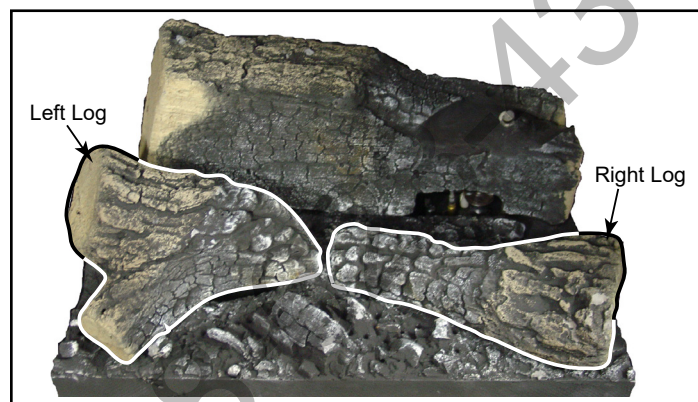
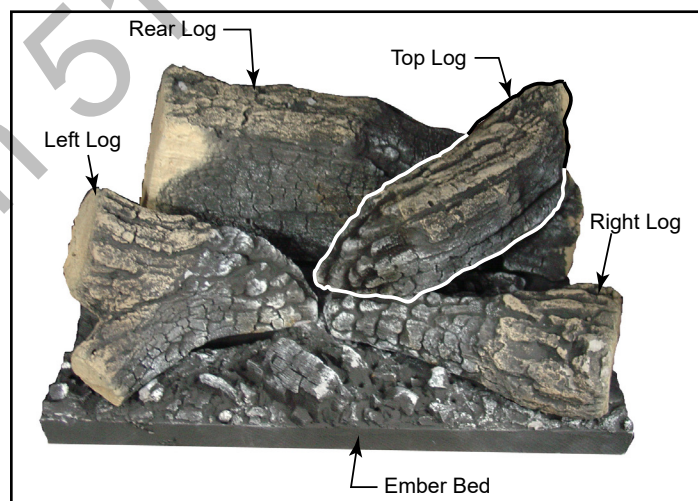

**Figure 42 - Rear Log**
**Figure 43 - Ribs for Logs**
2. Install the rear log by mating the notch on the bottom of the log with the raised notch on the back left side of the ember bed. (Figure 42) Ensure the cutout in the right side of the log is sitting around the pilot assembly and pilot is not obstructed. (Figure 43)
3. Install the left log by mating the hole on the bottom of the log with the pin in the ember bed. (Figure 42) Position the log over air hole in ember bed.
4. Install the right log by mating the notch on the bottom of the log with the raised notch on the ember bed. (Figure 42) Position the log over air hole in ember bed.
5. Install top log by mating hole on bottom of log with locating pin on top right side of rear log. (Figure 43) Position log so it is angled down toward the area where the front two logs meet.